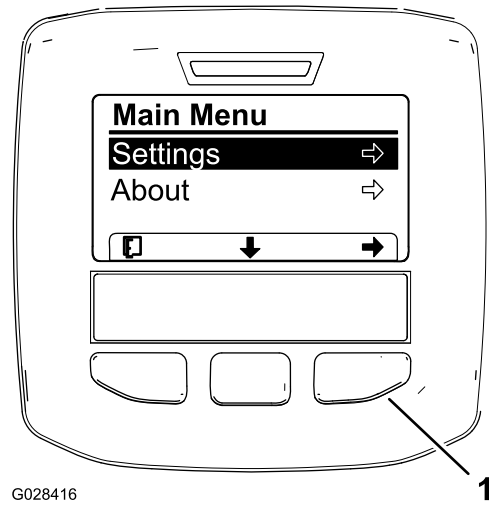

Figure 62
3. Press the center selection button to access the Main Menu (Figure 62).
5. Press the left selection button to save your selection(s), exit the Settings menu, and return to the Main Menu (Figure 62).
9. Press the left selection button to exit the Settings menu and return to the Main Menu (Figure 62 and Figure 64).